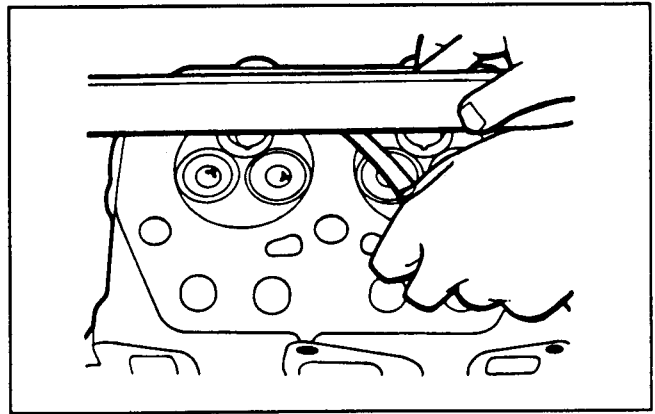

Figure 73
8. Use a straight edge and feeler gauge to check the flatness of the cylinder head lower surface (Fig. 73). Be sure to check the surface variation crosswise, lengthwise, and diagonally. If the variation in surface flatness exceeds (0.05 mm) 0.002 in. , the cylinder head or cylinder block must be replaced or resurfaced.